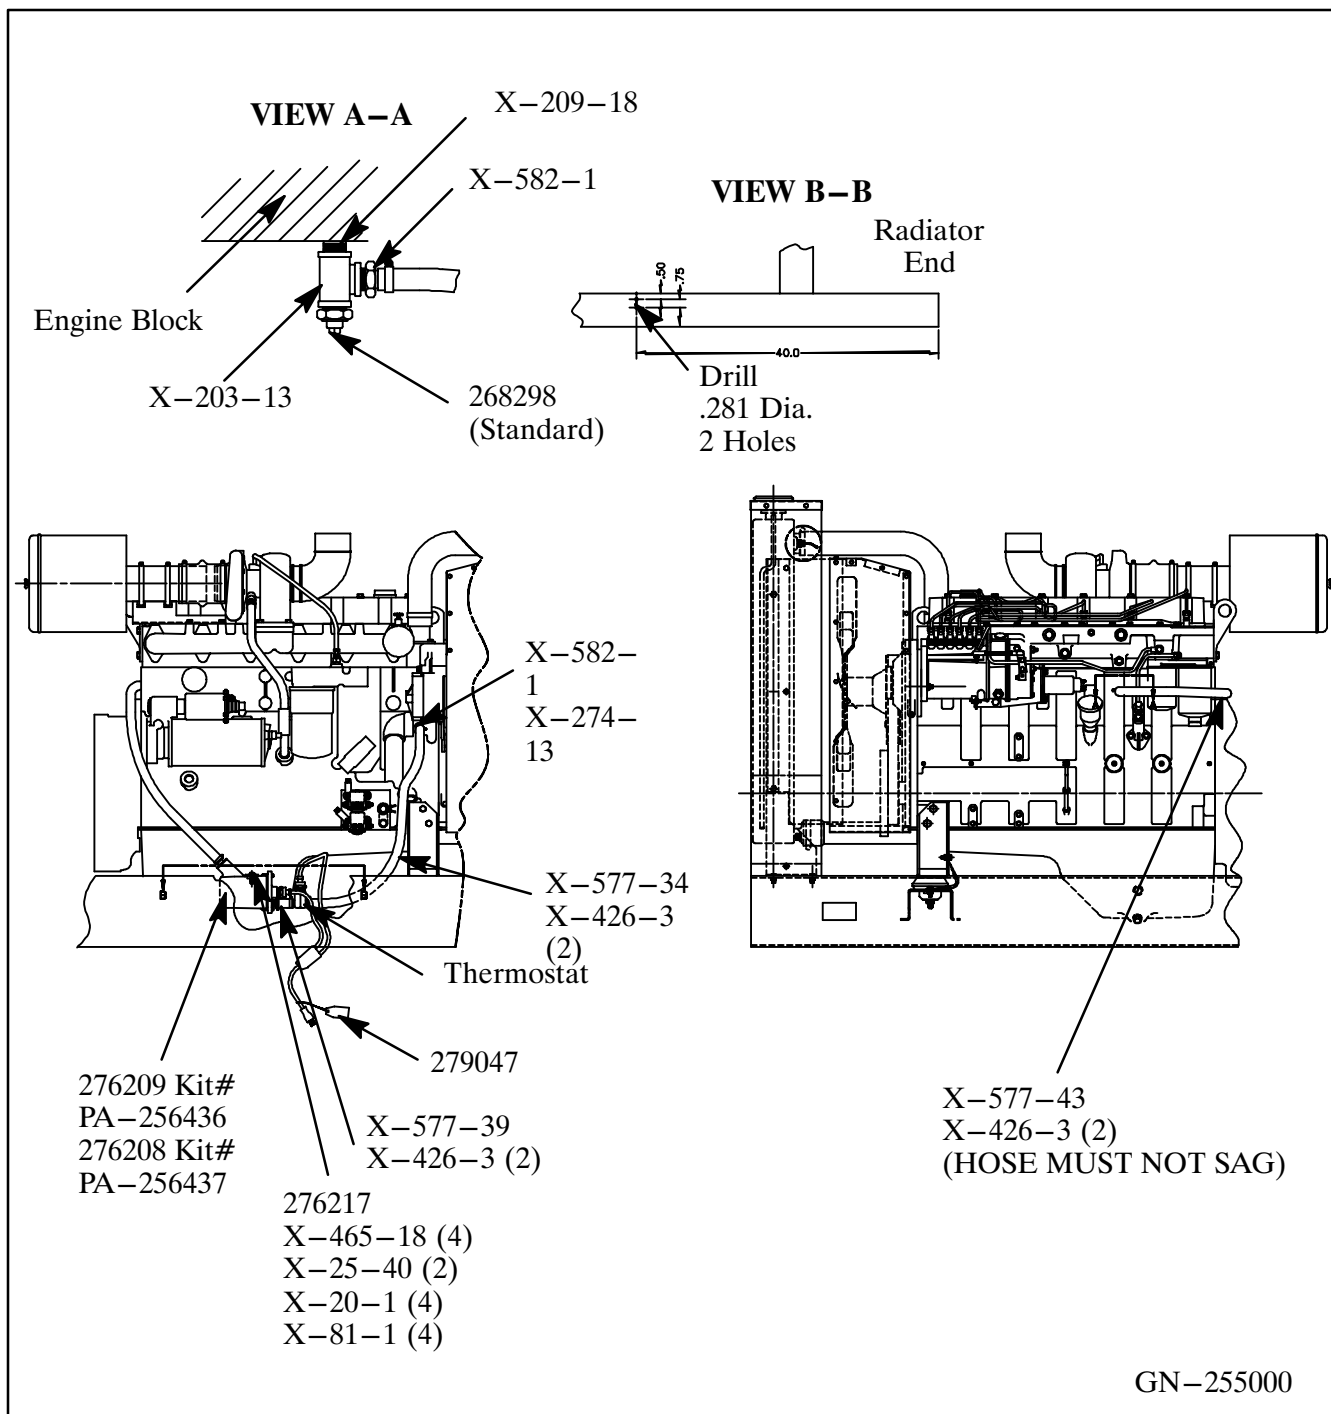

Figure 1. Block Heater Installation (Tank-Type)
3. Remove water temperature sender (268298). Install pipe (X-209-18), pipe tee (X-203-13), water temp. sender (268298), and adapter hose connector (X-582-1) into block. See Figure 1. View A-A.
Early generator sets may not have pre-drilled holes in engine skid. Use bracket as template and drill two 0.281 dia. holes. Locate hole 40 inches from radiator end of generator. Drill first hole 0.50 inches on skid. Drill second hole 1.25 inches. See Figure 1 (View B-B).
6. Install block heater (276209 or 276208) to mounting bracket. Route hose around engine as shown in Figure 1. (Hose must not sag). Locate hose clamp (X-426-3) 1/4 in. (6 mm) from end of hose (X-577-43) and tighten to block heater.